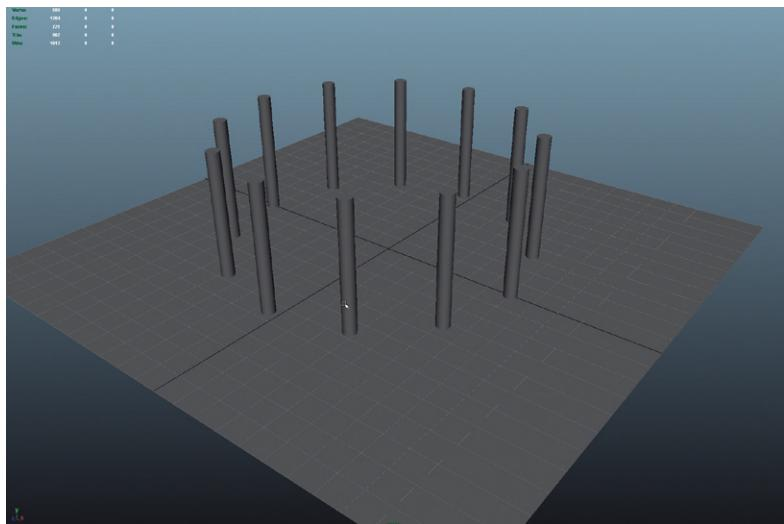

FIG 7.3 Lighting setup.
Step 1: Set up a quick scene to illustrate the lighting (Fig. 7.3). Basically, it's a plane, the size of the default grid, and some cylinders placed in a circle. The cylinders are all sitting on the plane.